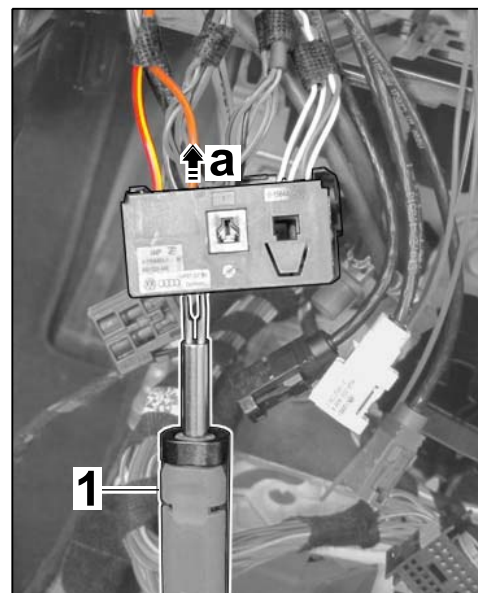

Figure 22
- 4.4.6 Release socket contact using a suitable press-out tool ⇒ *Figure 22* -3- and press line out of the PCM central connector ⇒ *Figure 22-a*.